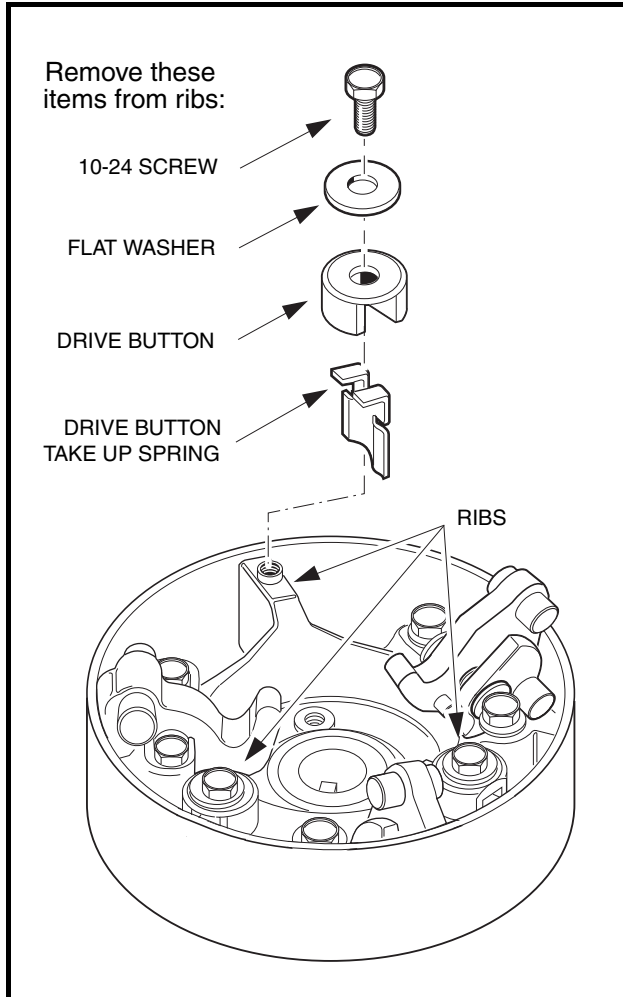

Figure 17-8 Drive Button Mounting
- 4.1. Remove the screws, flat washers, drive button take-up spring, and drive buttons (Figure 17-8, Page 17-9).
14. Compress each take-up spring and install the drive button over the rib and take-up spring (**Figure 17-8, Page 17-9**).